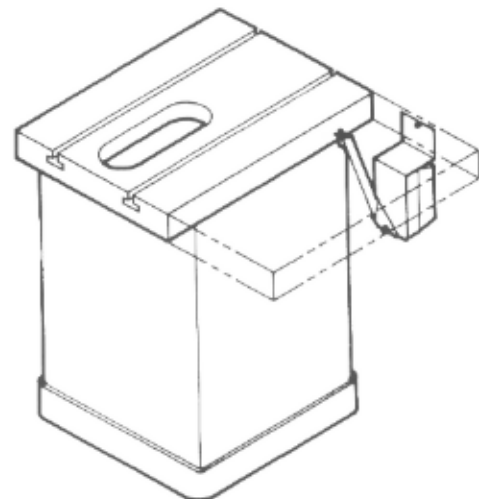

Fig. 3-2
10. When completed, the switch brace and switch bracket should look like Fig. 3-2.